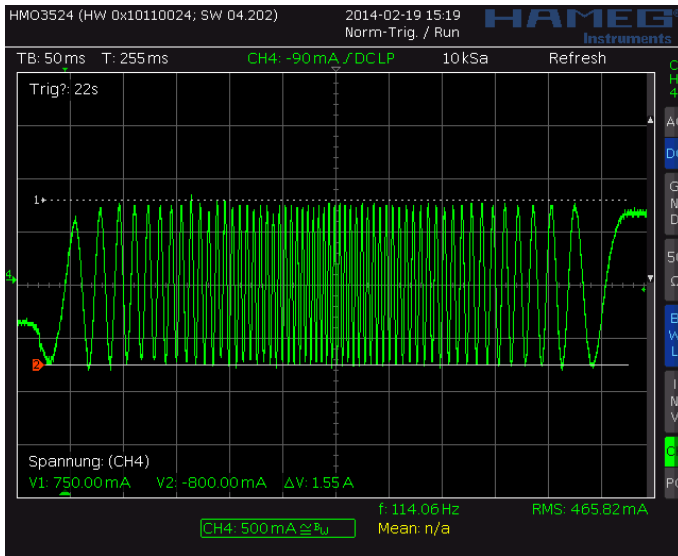
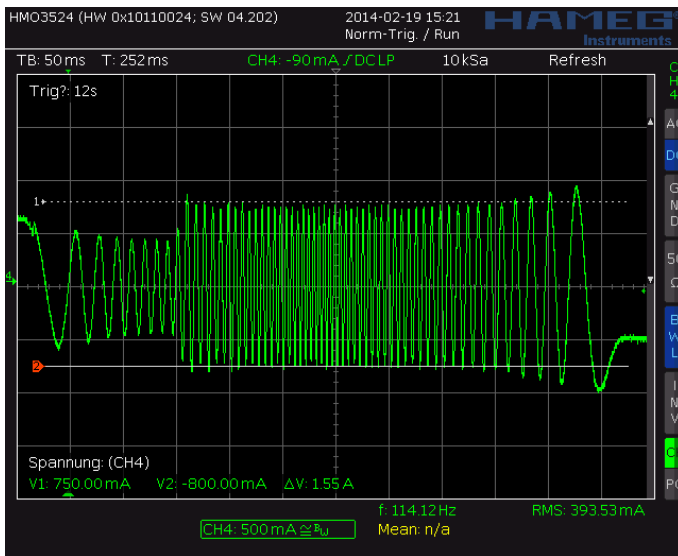
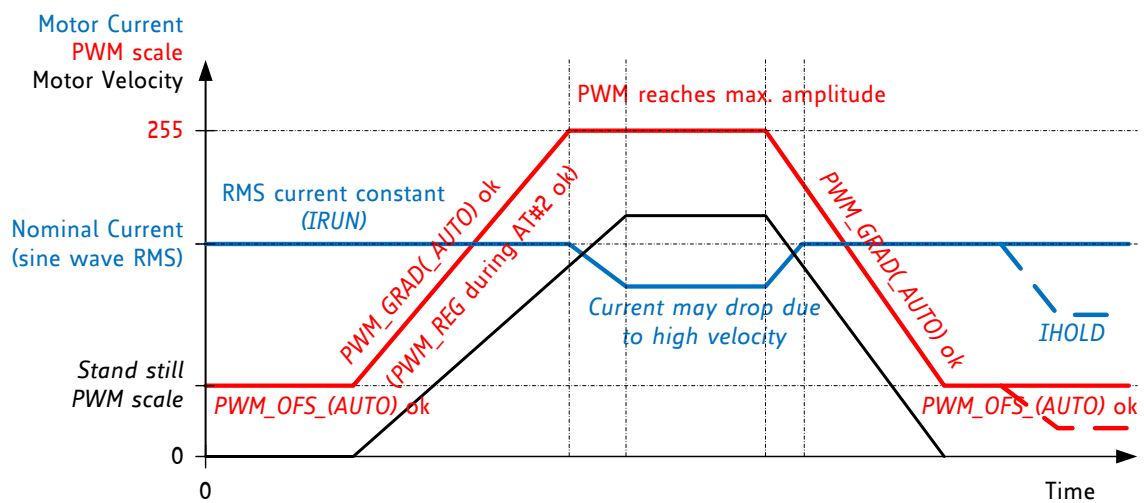

Figure 6.3 Scope shot: good setting for PWM_REG
Figure 6.4 Scope shot: too small setting for PWM_REG during AT#2
Figure 6.5 Successfully determined PWM_GRAD(AUTO) and PWM_OF(S)_AUTO
In stealthChop voltage PWM mode, the autoscaling function ($pwm_autoscale = 1$, $pwm_auto_grad = 1$) regulates the motor current to the desired current setting. Automatic scaling is used as part of the automatic tuning process (AT), and for subsequent tracking of changes within the motor parameters. The driver measures the motor current during the chopper on time and uses a proportional regulator to regulate PWM_SCALE_AUTO in order match the motor current to the target current. PWM_REG is the proportionality coefficient for this regulator. Basically, the proportionality coefficient should be as small as possible in order to get a stable and soft regulation behavior, but it must be large enough to allow the driver to quickly react to changes caused by variation of the motor target current (e.g. change of VREF). During initial tuning step AT#2, PWM_REG also compensates for the change of motor velocity. Therefore, a high acceleration during AT#2 will require a higher setting of PWM_REG . With careful selection of homing velocity and acceleration, a minimum setting of the regulation gradient often is sufficient ($PWM_REG=1$). PWM_REG setting should be optimized for the fastest required acceleration and deceleration ramp (compare Figure 6.3 and Figure 6.4). The quality of the setting PWM_REG in phase AT#2 and the finished automatic tuning procedure (or non-automatic settings for PWM_OFS and PWM_GRAD) can be examined when monitoring motor current during an acceleration phase Figure 6.5.